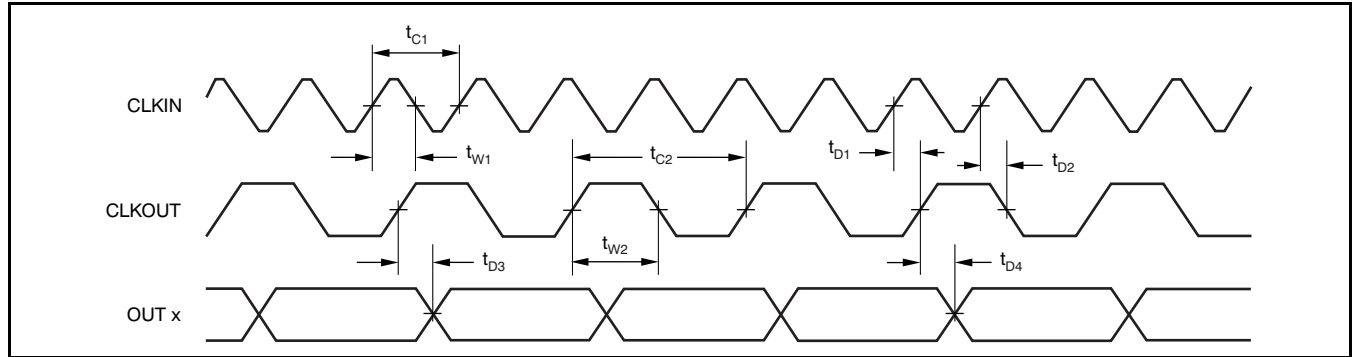

Figure 1. ADS1204 Timing Diagram
(1) Applicable for 5.0V nominal supply: BV_{DD} (min) = 4.5V and BV_{DD} (max) = 5.5V. All input signals are specified with t_R = t_F = 5ns (10% to 90% of BV_{DD}) and timed from a voltage level of (V_{IL} + V_{IH})/2. See Figure 1.
(1) Applicable for 3.0V nominal supply: BV_{DD} (min) = 2.7V and BV_{DD} (max) = 3.6V. All input signals are specified with t_R = t_F = 5ns (10% to 90% of BV_{DD}) and timed from a voltage level of (V_{IL} + V_{IH})/2. See Figure 1.